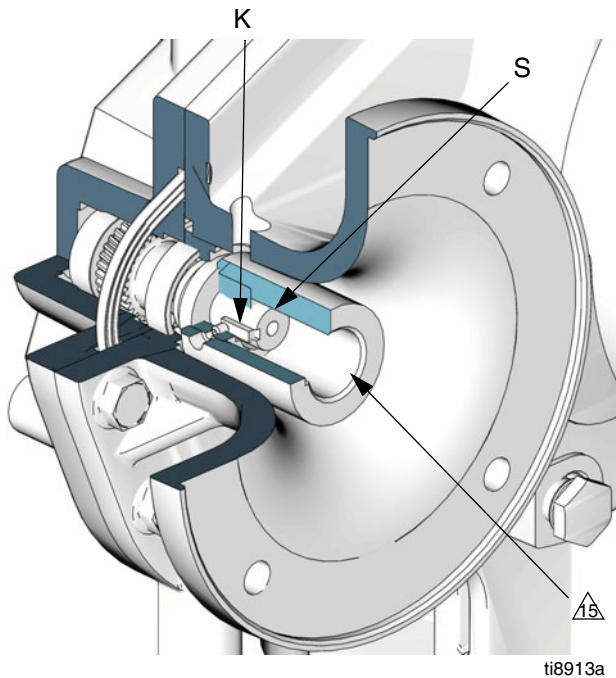

FIG. 1. Motor Coupler Installation
- See FIG. 1. Apply antiseize lubricant (LPS[®]-04110 or equivalent) to bore of coupler.